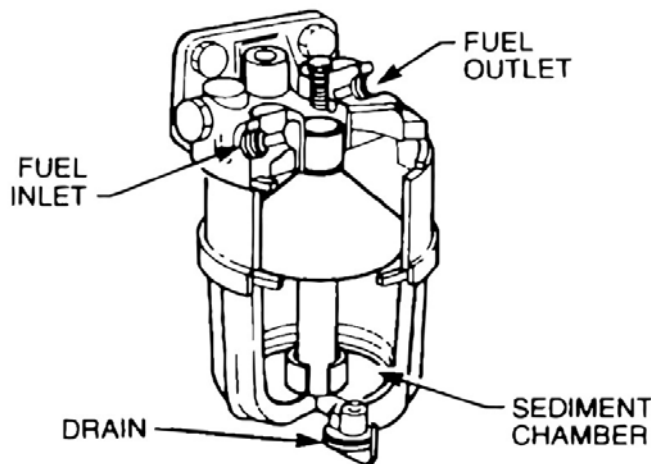

Figure 5 Fuel Sedimenter
**27. Sedimenters.** Two CAV SS type sedimenters (Figure 5) are incorporated in the fuel lines, between the fuel tanks and the transfer pump, to trap any water or heavy contaminants that may be in the fuel. A drain plug, in the bottom of each sedimenter housing, allows any water or contaminants to be drained off. The right-hand sedimenter is mounted on the chassis rail behind the fuel tank and the left-hand sedimenter is mounted inboard of the left-hand chassis rail behind the transmission.